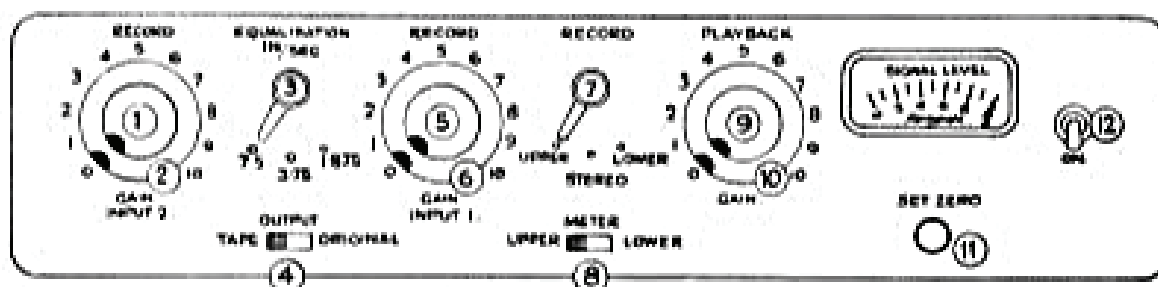

FIG. 3.
By careful operation of the recorder it is possible to ensure that conditions favourable to the retention of permanent magnetism cannot possibly arise. For instance, **NEVER OPERATE THE RECORD SWITCH (KNOB 7, FIG. 3) WITH THE MAIN DECK SWITCH ON "RECORD" AS THIS WILL VERY LIKELY POLARISE THE RECORD HEAD, WHICH WOULD THEN NEED DEMAGNETISING.**
Instrument is energised by switch 12 (Fig. 3) on front panel, meter illumination will come on immediately.
Select the operating speed required, by the lever knob (A) on the tape deck, check that knob 3 on the front panel (Fig. 3) is set to the same speed otherwise the starting button (D) will not "hold in" when pulled towards the bottom left hand corner of the control panel.